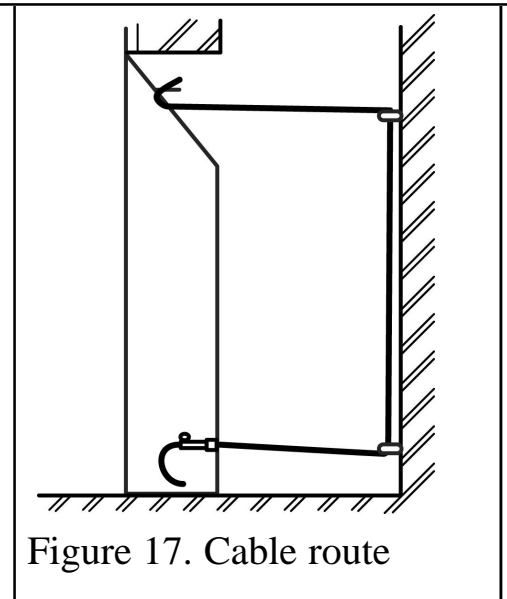

Figure 17. Cable route
6. Thread the cables through the eyescrews. Return the cables through the holes near the bottom of the hotbox side panels (See figure 17).